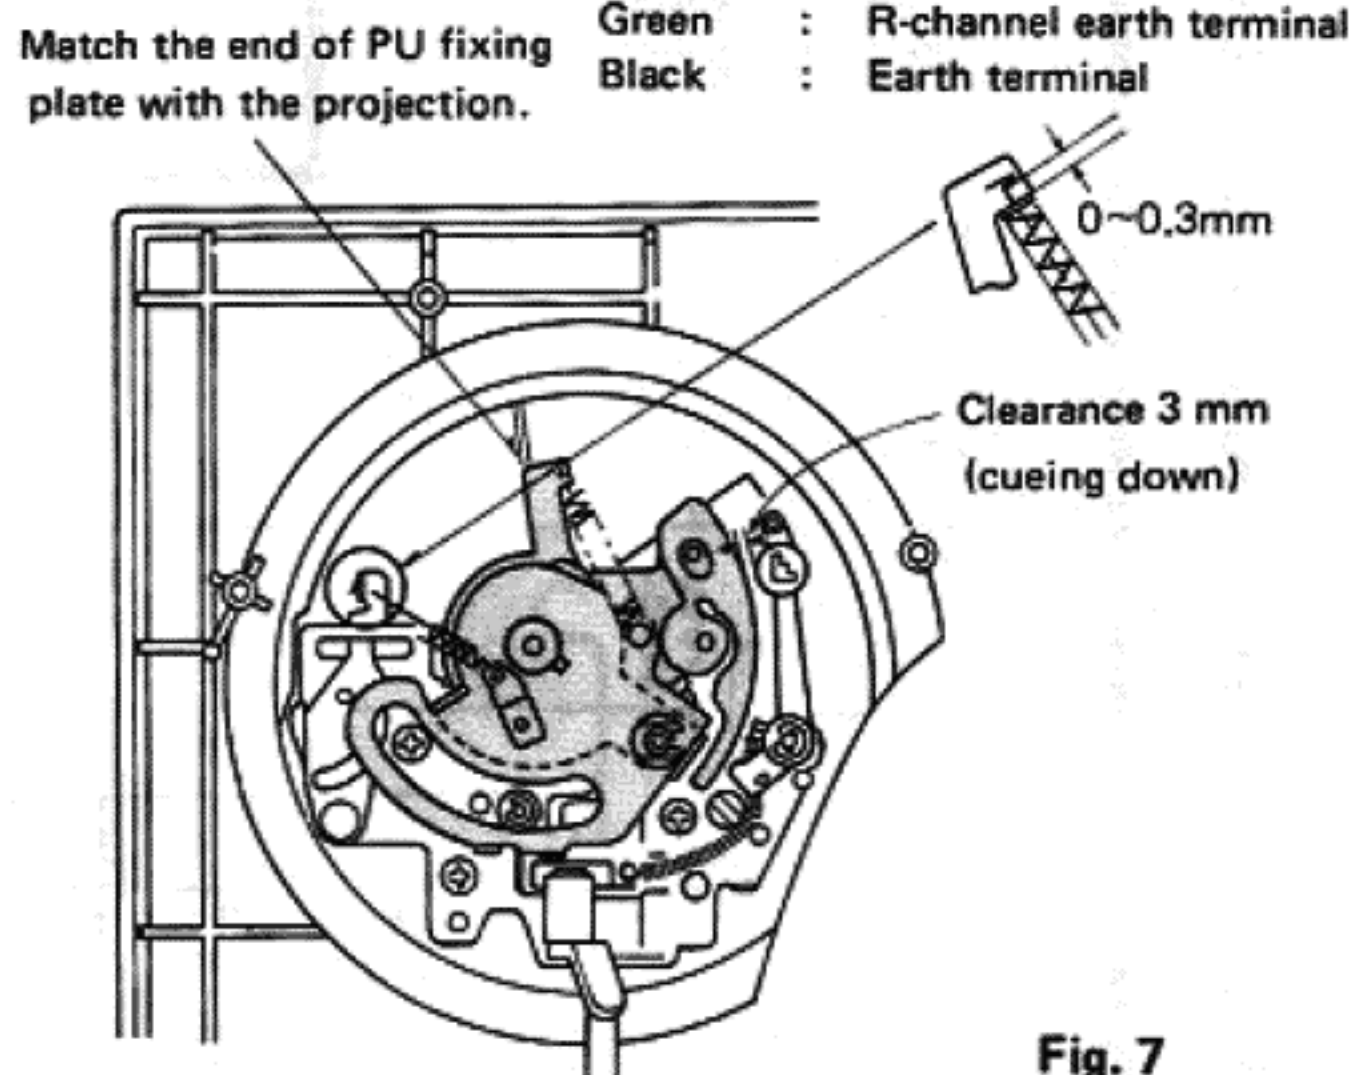

Fig. 7
3. When fitting the PU fixing plate, match the PU fixing plate with the projection of the cabinet and tighten the screw ⑭. (Fig. 7)
4. After fitting the canceller spring, set the anti-skating control knob to zero and shift the tonearm to the innermost periphery. Then make sure that the clearance between the canceller spring and canceller operation plate is 0~0.3 mm. (Fig. 7)